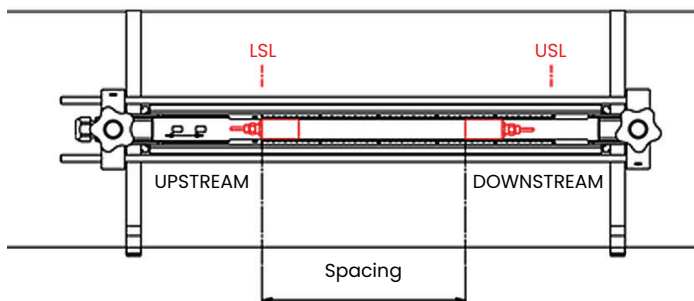

Figure 14: Installation for two traverses with one fixture
5. See figure 14 below for an example of a completed installation. In this drawing, **LSL** is the *lower specified limit* and **USL** is the *upper specified limit* for the installation.